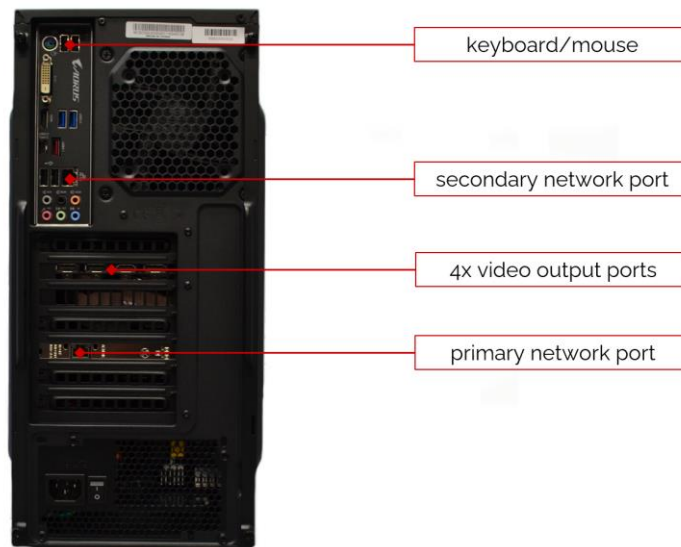
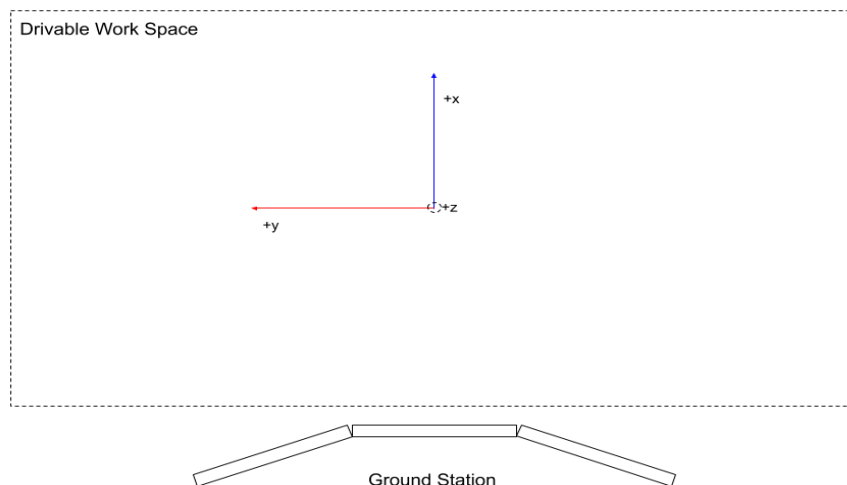

Figure 4: Self-Driving Car Studio PC peripheral inputs.
Figure 5: Recommended Self-Driving Car Research Studio layout
To wire the Self-Driving Research studio in this scenario please use Figure 4 as reference. Use the primary network port to connect the provided router. You may use the secondary network port available on the PC to connect any additional networks required by your institution. During the setup for the ground station, it is always recommended the user always have a full view of the workspace where the QCar will be operating, as shown in Figure 5.
3. Connect the other end of the ethernet cable directly into the ground control station PC using the Ethernet port at the bottom (the primary network port, see Figure 4).